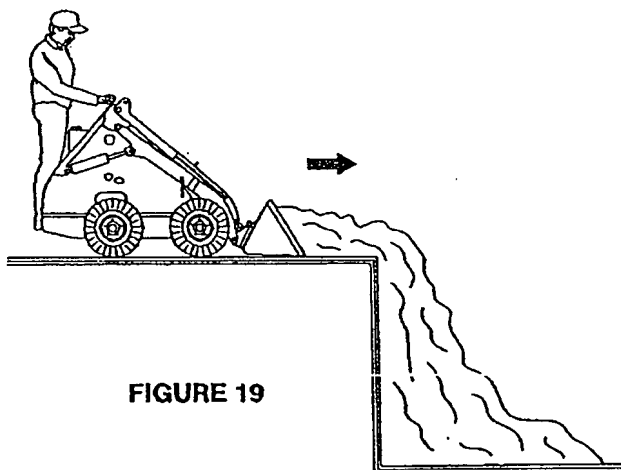

FIGURE 19
1. When filling a trench or a hole, drive up the hole with bucket low or push material up to edge, as in Figure 19.